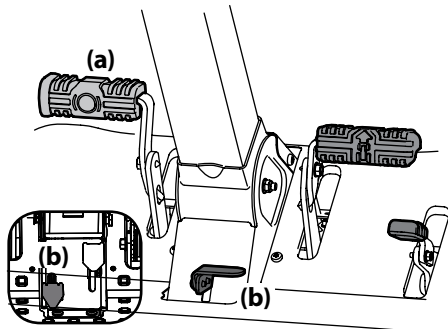

Figure 3-2
2. Engage the parking brake by pressing forward on the brake pedal (a), then press down on the parking break/cruise control lever (b) and then release the brake pedal (a). Refer to Figure 3-2.